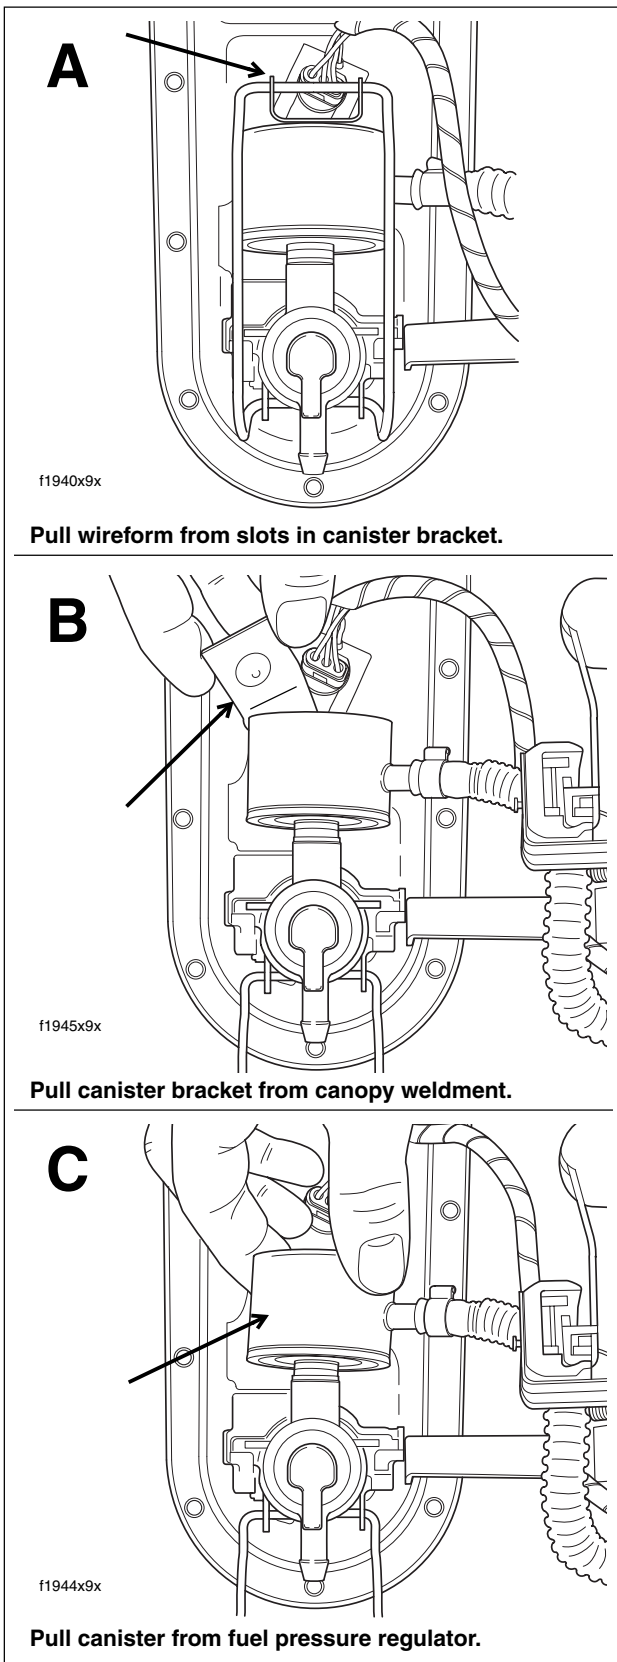

Figure 9-17. Remove Fuel Filter Canister (FLHR/C/S/I)
- a. Pull wireform to release from slots on fuel filter canister bracket. See A of Figure 9-17.
- b. Use hinge to swing wireform out of the way. Move canister bracket forward to disengage tab from slot on canopy weldment. See B of Figure 9-17.
- c. Pull fitting on canister from fuel pressure regulator assembly. See C of Figure 9-17.
- a. Install **new** O-ring onto fitting of fuel filter canister. Insert fitting into fuel pressure regulator assembly, so that inlet port is on fuel pump side. See C of Figure 9-17.
- b. Slide tab on canister bracket into slot of canopy weldment until bump on bracket engages depression at side of canister. See B of Figure 9-17.
- c. Use hinge to rotate wireform over canister bracket. Press on wireform until it fully engages slots on canister bracket. See A of Figure 9-17.